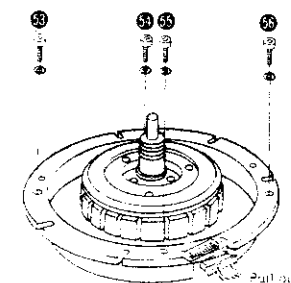

Fig. 13
2. Remove the 4 setscrews (Fig. 13 : ① ~ ④) of the stator frame. (Use the hexagonal wrench (M4)).